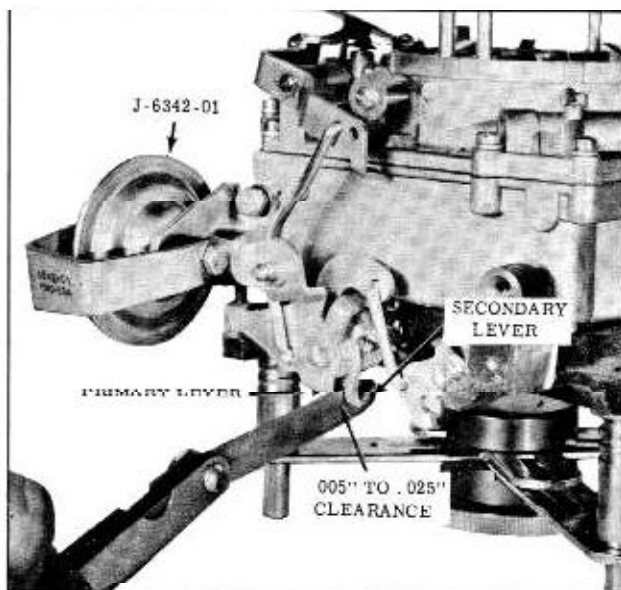

Fig. 8-131 Secondary Actuating Lever Adjustment
3. Remove slack from linkage and insert a feeler gauge between the actuating lever and the primary lever. (Fig. 8-131).